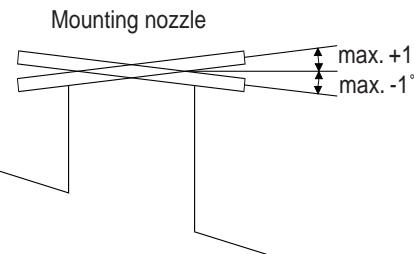

Fig. 9: Allowable inclination of the mounting flange
- Install the flange on the top of the tank. Its deviation from the horizontal plane should not exceed  $+/- 1$  deg (see Fig.9).